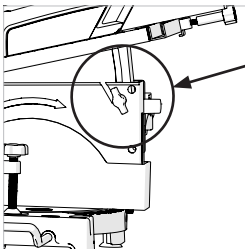

Fig. 5
- Raise the table top to its upmost position and tighten the height adjustment screw. **(Fig.5)**